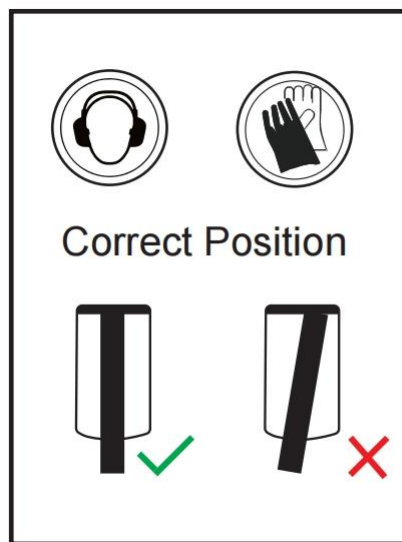

Fig.8
- 6.5. Ensure the post is in a vertical position and the post driver is on in a parallel plane to the post. The correct position as Fig.8.